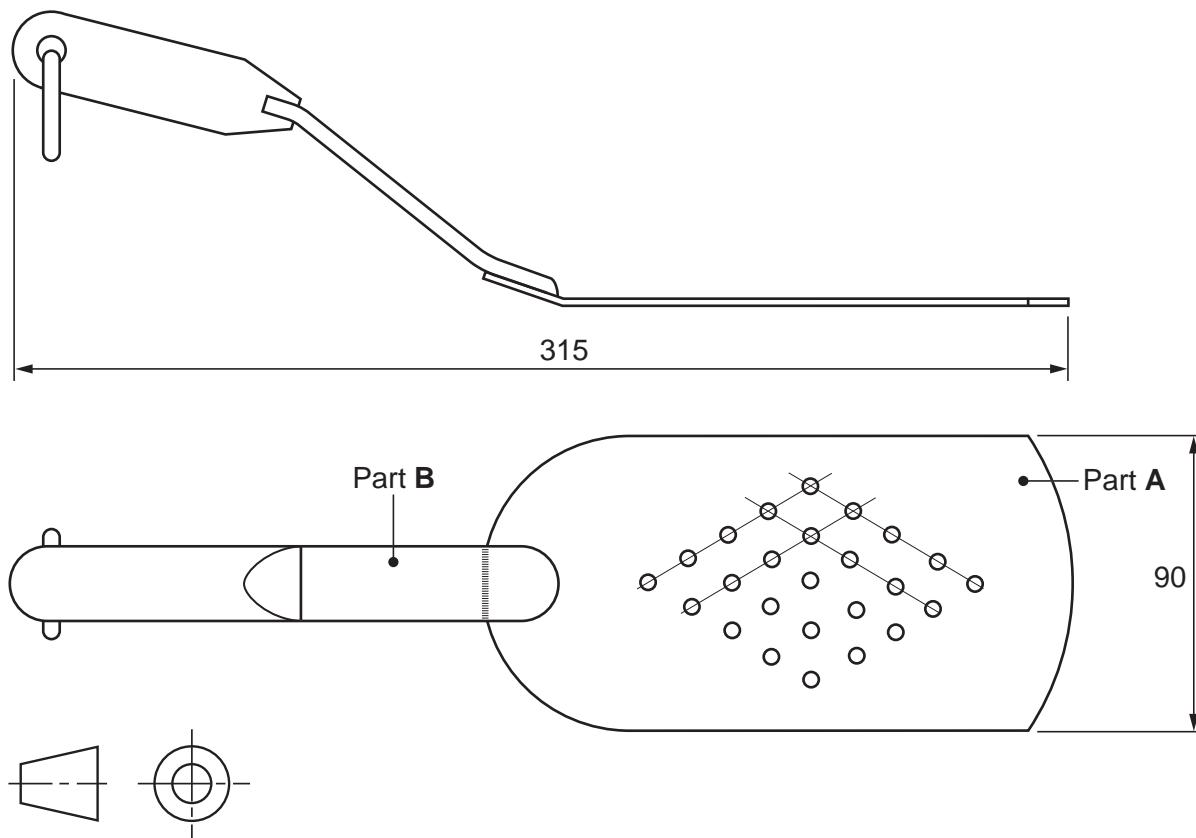

Fig. 1
- 1** Fig. 1 shows a spatula, for using on a barbecue, which is to be made in a school workshop.